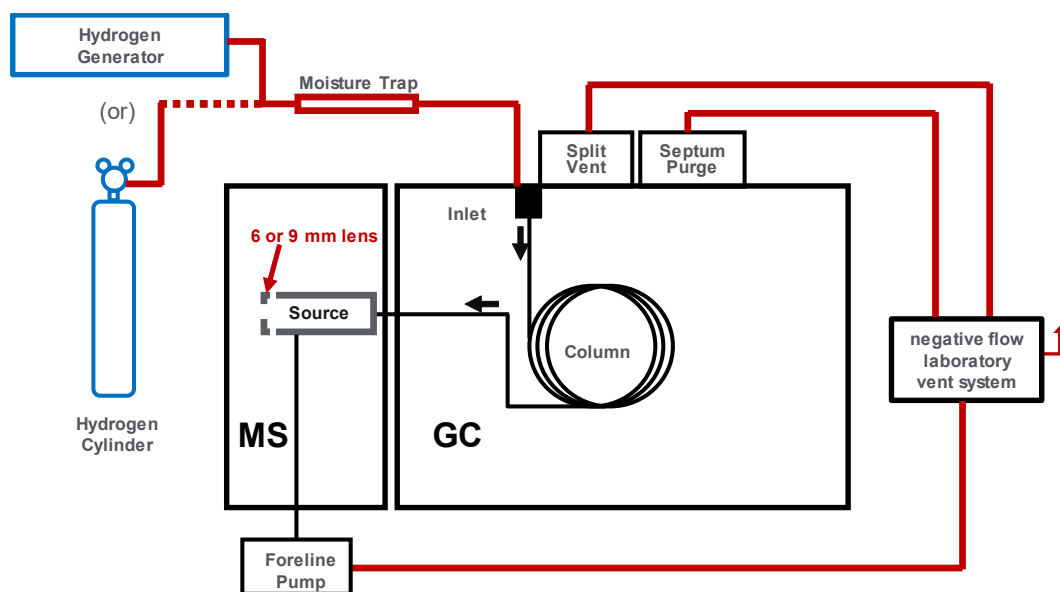

Figure 3. Diagram of the plumbing for use with hydrogen carrier gas.
**Figure 3** shows a diagram of the plumbing for use with hydrogen carrier gas.